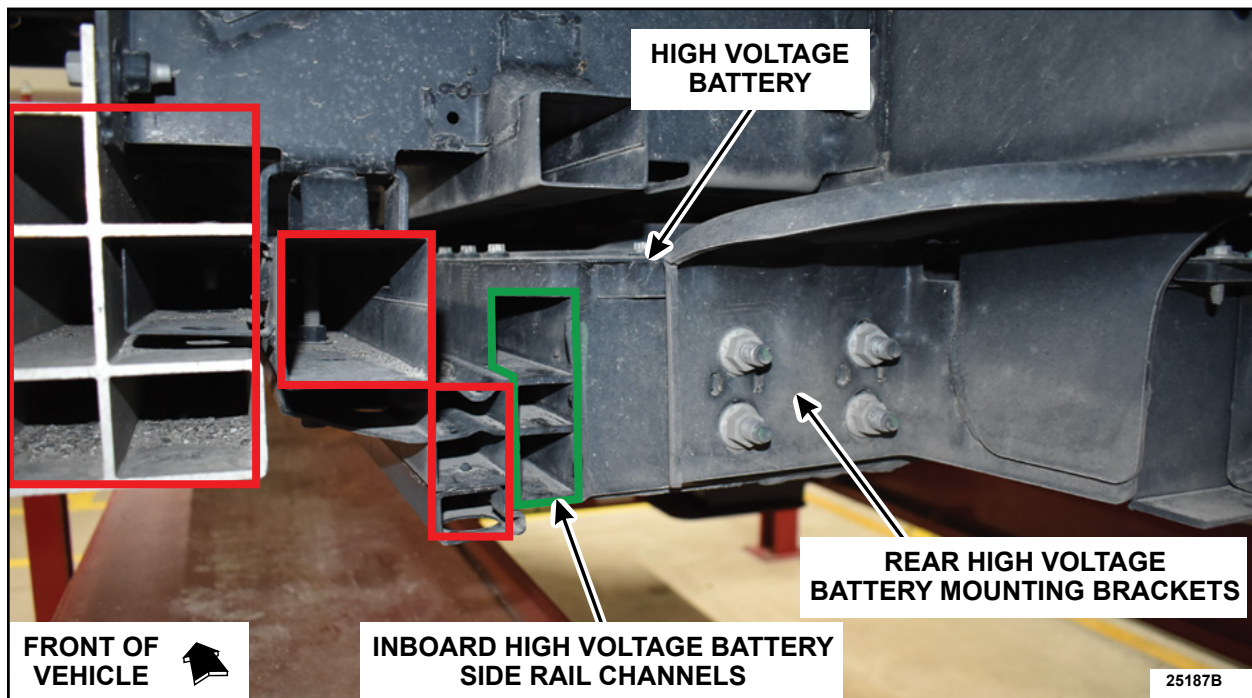

FIGURE 2
5. Locate the inboard high voltage battery side rail channels at the rear left hand (LH) and right hand (RH) sides of the high voltage battery pack. See Figure 2.